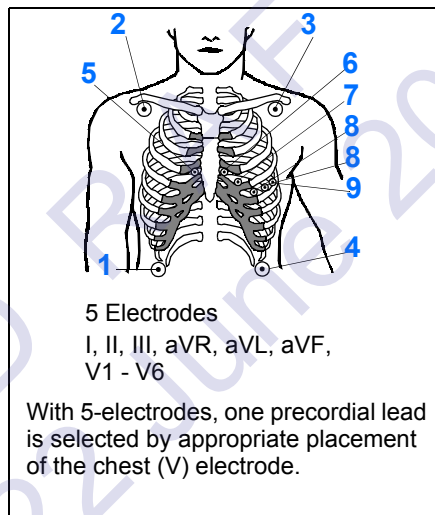

Figure 3-2: Adult electrode placement
- To minimize muscle artifact, place electrodes over flat, non-muscular areas of the body (refer to Figure 3-2). This is important for telemetry patients who are usually ambulatory.